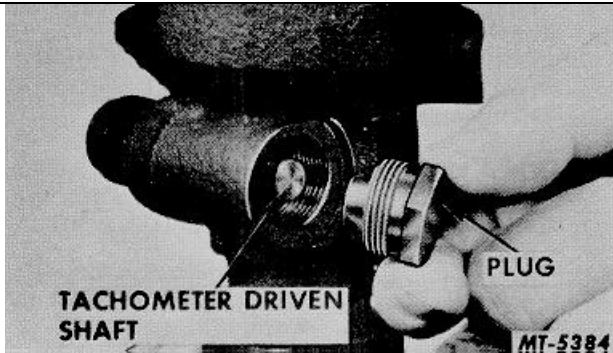

Fig. 32 Removing Tachometer Driven Shaft Plug
- b. Remove tachometer driven gear shaft plug and bushing (Fig. 32).